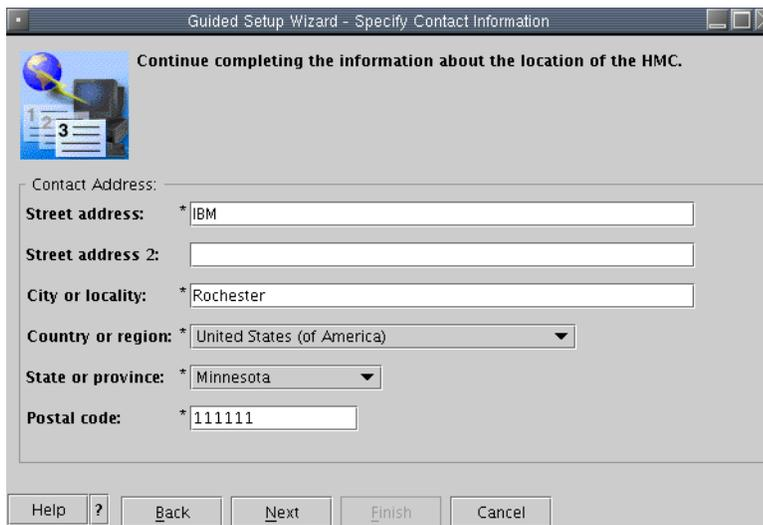

Figure 4-30 Guided Setup - Contact information part 2
29. The second Contact Information panel is now displayed (see Figure 4-30). You should enter your contact address information on this panel. Again, you must complete the mandatory fields (*). Use the drop down menus to select your Country/Region and State/Province settings.